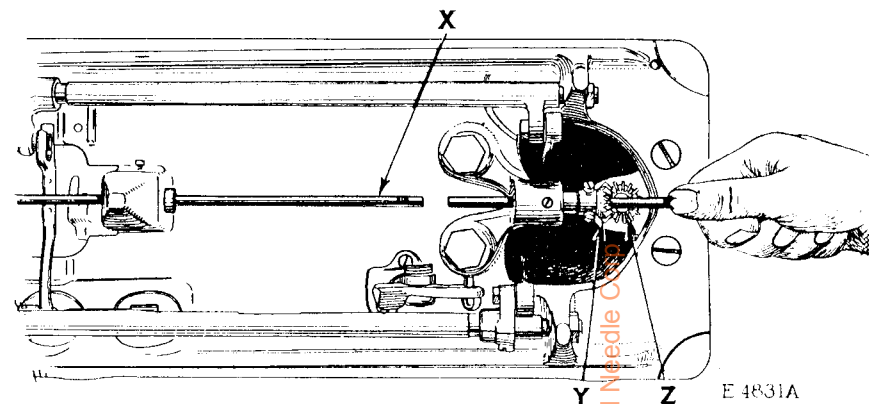

Fig. 25. Removing and Replacing Sewing Hook Shaft
Before removing the hook shaft (X, Fig. 25) from the machine, the gears (Y and Z, Fig. 25) should be marked with chalk or red pencil on one of the teeth of the gear (Y) and the space of the gear (Z) in which the marked tooth meshes. This is important, as the gears may become dislodged when removing the hook shaft, and the marks will enable you to retain the original relative positions of the gears.
To remove the hook shaft, loosen the two set screws in the gear (Y, Fig. 25), then insert the new hook shaft into the gear
in Fig. 25. By removing the old shaft in this manner, the relative positions of the gears (Y and Z) will not be disturbed. When placing the new shaft in position in the machine, see that the flat portion near one end of the shaft is at the right so that one of the set screws in the gear (Y, Fig. 25) will bear against it when the gear is fastened in position on the shaft. The shaft should be set so that its left end is flush with the front (left hand) side of the body of the sewing hook.